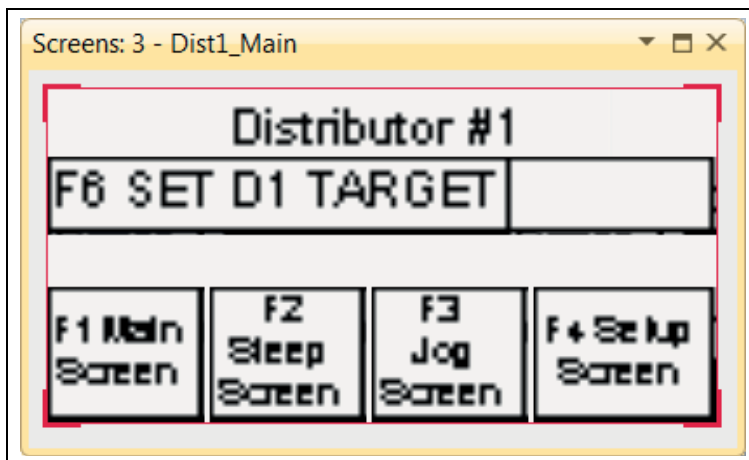

Figure 5H
8. Press the **F1** Main Screen key. The screen will appear as in Figure 5H.